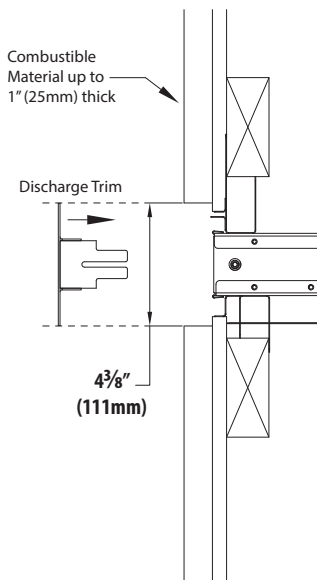

Figure 3.6, Combustible Finish Material up to 1" Thick
- See Figure 3.6 on page 16 for up to 1" (25mm) thick combustible material installation around the discharge trim of the KZK air discharge opening.